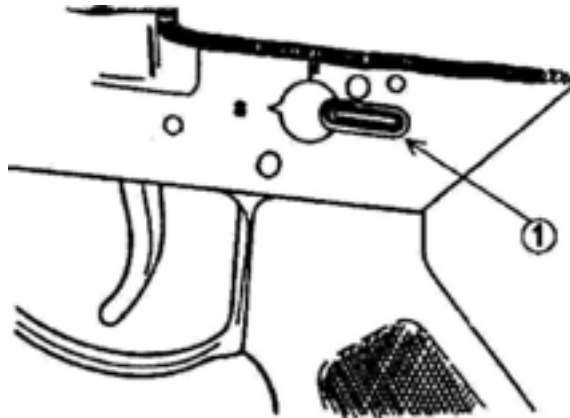

Figure 2-13. Rifle Safety on Safe
4. With the safety in the safe position (safety lever horizontal (1), Figure 2-13) and the muzzle pointed in safe direction pull the charging handle to the rear until it stops, then release it (do not keep your hand on the changer handle). The rifle then loads and locks under its own spring power for all subsequent rounds.
2.3.1 UNLOADING RIFLE. Place the rifle on safe (safety lever horizontal (1), Figure 2-13), press the magazine catch forward, towards the magazine, and remove the magazine. Pull the charging handle to the rear, which will eject any cartridge still chambered. (One method of indicating the rifle has been cleared is to take an empty cartridge case, insert it halfway into the ejection port so that the neck is visible, and ease the bolt forward onto it.)